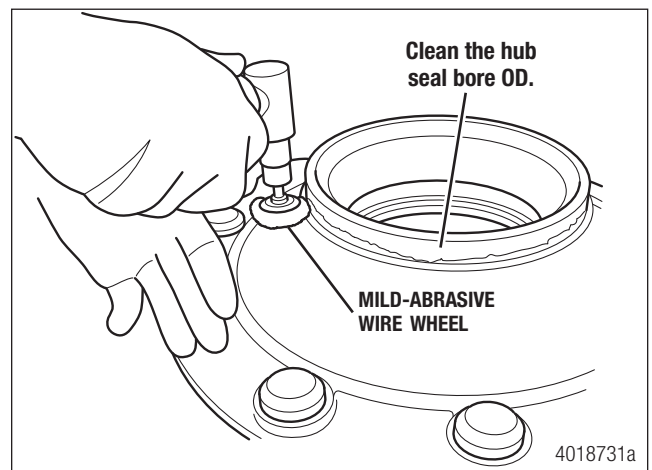

Figure 6.11
4. Remove all debris and clean the outside diameter of the hub where the ABS tone ring seats using a Scotch-Brite™ pad or 3M brand cleaning pad. Make sure it is clear of all grime or contaminants. If necessary, use a mild-abrasive wire wheel to remove any surface rust. Figure 6.11 and Figure 6.12.